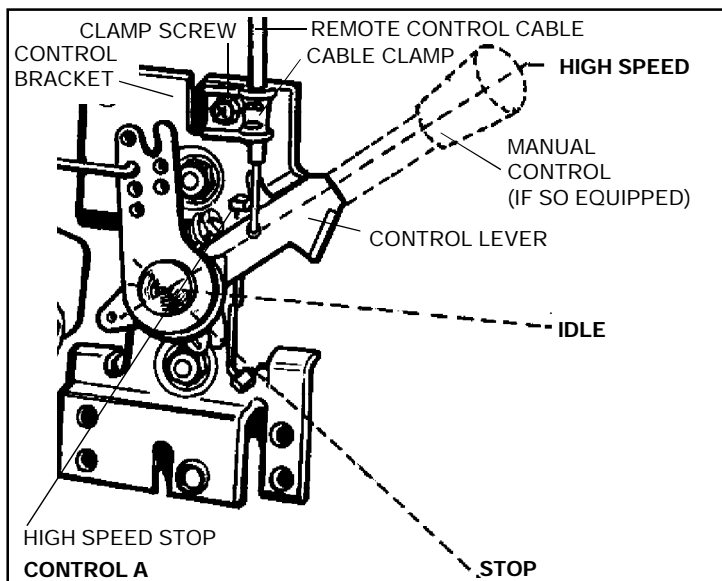
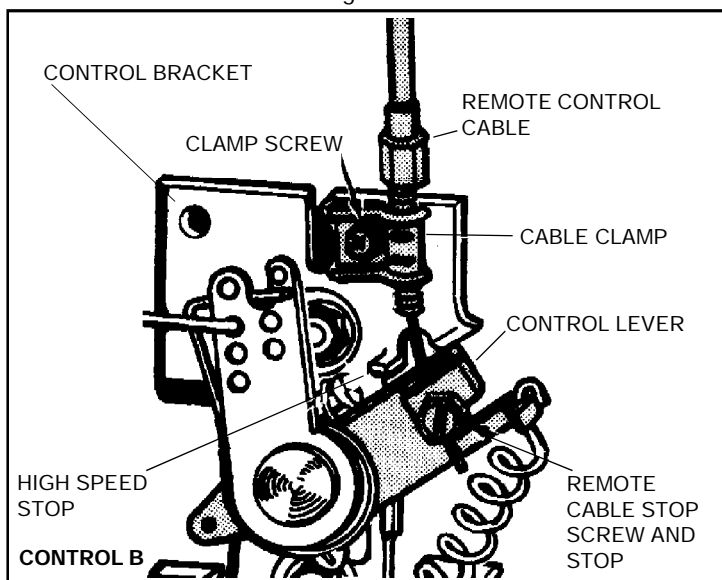

Figure 8
Figure 9
### ⚠️ REMOTE CONTROL (see Figure 8 or 9):
**NOTE:** If engine control lever does not touch "HIGH SPEED STOP", proceed to **CONTROL A** in Figure 8 or **CONTROL B** in Figure 9.
#### CONTROL A (see Figure 8):
#### CONTROL B (see Figure 9):